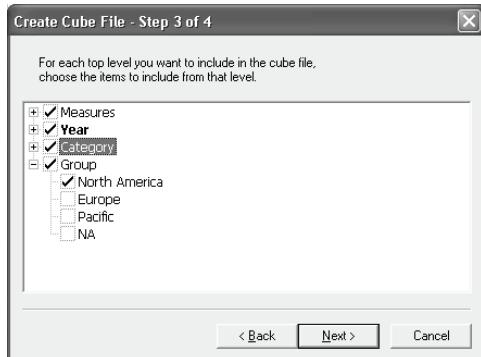

Figure 19.12 Choose the dimension members and measures to be included in the cube.
- In Step 3 (Figure 19.12), you can select measures and members from the attribute hierarchies that will be exported to the cube. Expand the *Measures* node. Unselect the *Measures* root node and select only the *Internet Sales Amount* and *Reseller Sales Amount* measures.